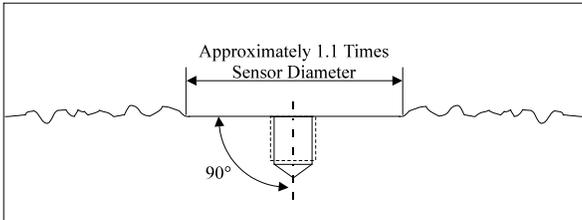

Figure 2. Mounting Surface Preparation
STEP 1: First, prepare a smooth, flat mounting surface, then drill and tap a mounting hole in the center of this area as shown in Figure 2 and if applicable in accordance with the **Installation Drawing** for the specific sensor that is being mounted.